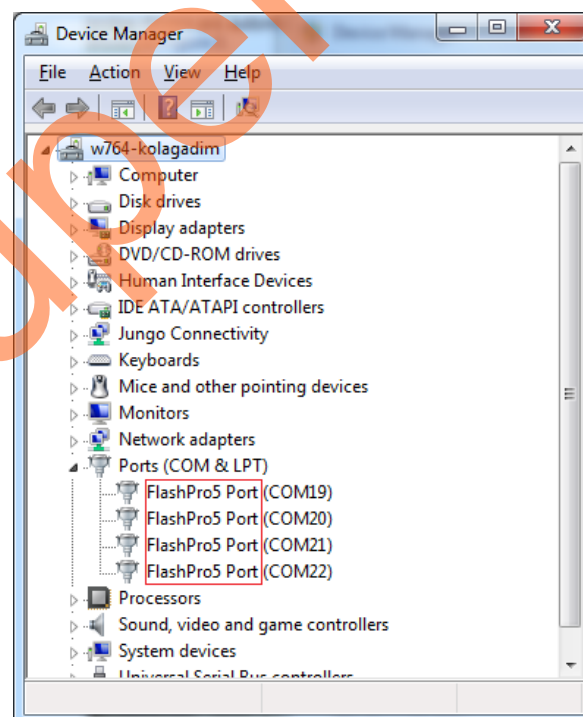

Figure 6 • Device Manager
1. Connect the Host PC to the J33 Connector using the USB A to mini-B cable. The USB to UART bridge drivers are automatically detected. Verify, if the detection is made in the device manager as shown in Figure 6.